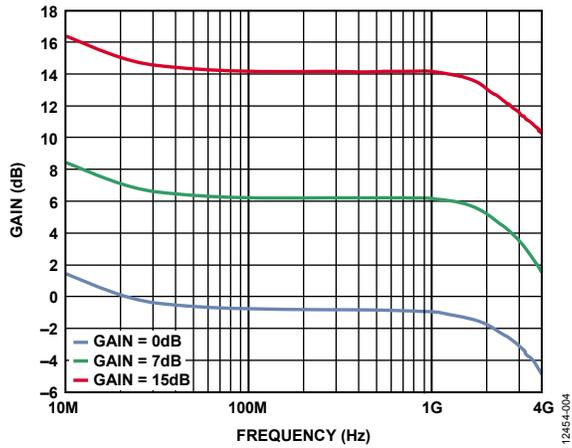
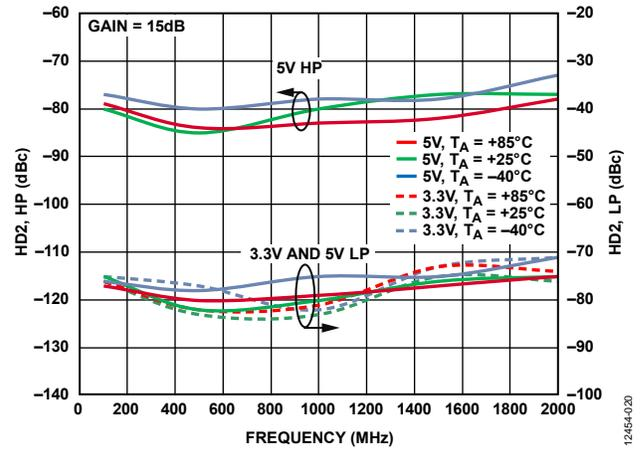
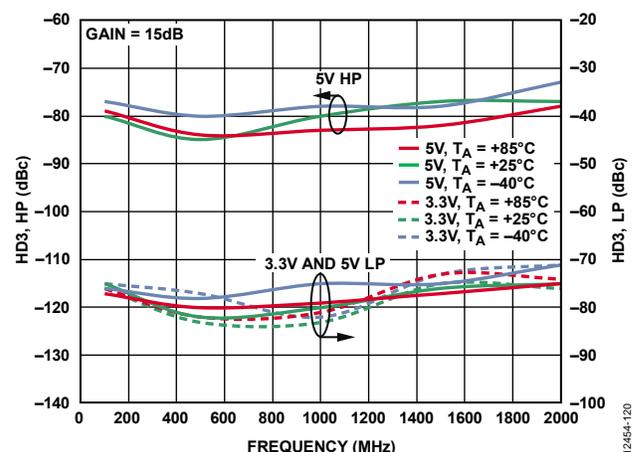
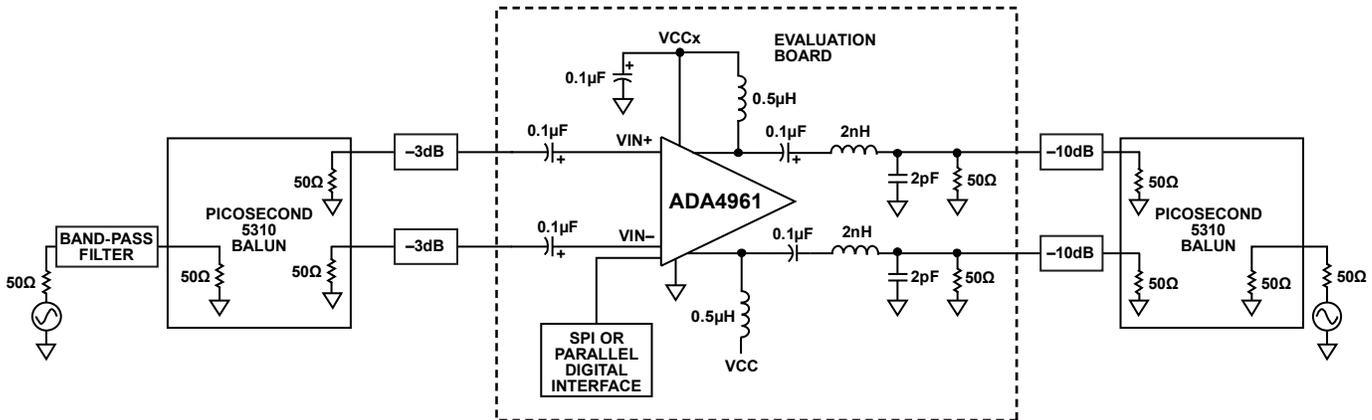

Figure 4. Gain vs. Frequency at 15 dB, 7 dB, and 0 dB Gain Settings, 5.0V
Figure 20. HD2 vs. Frequency at Three Temperatures, +5.0 V, +3.3 V, with Low-Pass Filter
Figure 21. HD3 vs. Frequency at Three Temperatures, 5.0 V, 3.3 V, with Low-Pass Filter
Figure 37. Test Circuit for Single Tone Distortion
Figure 37 is used in part of the ac characterization of the ADA4961. The picosecond 5310 balun provides the differential input signal and the $100\ \Omega$ differential match to the device. The 3 dB pads make the picosecond balun $50\ \Omega$ impedance less reactive on one side, which balances the differential phase accuracy. On the outputs, the 2 nH and 2 pF create a two-pole low-pass filter, along with the two $50\ \Omega$ resistors in parallel with the pads and output picosecond balun. This filter creates the $50\ \Omega$ differential load.
The output pads make the load more balanced. This is essential for good HD2 performance. This filter technique also creates a lighter load (slight peaking) for the device at higher frequencies, which improves the IMD3 performance. Though the filter bandwidth (BW) computes to 3.3 GHz, the parasitic C (not shown in Figure 37) across the 2 nH filter inductors reduces the 3 dB BW to about 2 GHz (see Figure 4). The filter, beyond reducing integrated output noise, also reduces the higher frequency second and third harmonics above 1 GHz and 700 MHz, respectively (see Figure 20 and Figure 21).